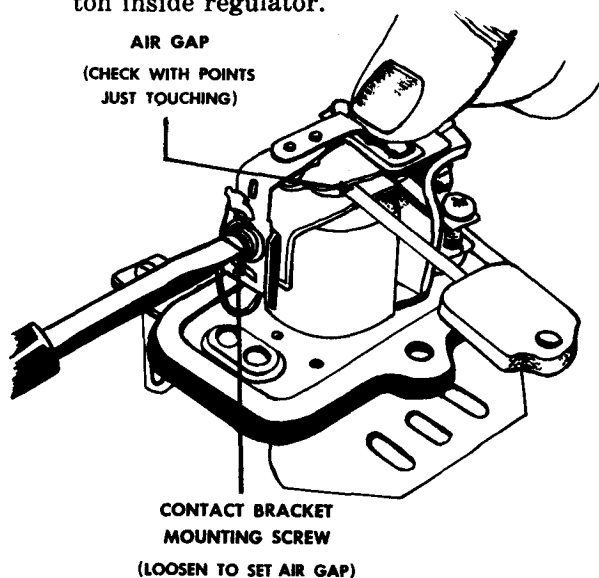

Figure 15—Checking and adjusting air gap.
Air Gap — Measure the air gap between the armature and core with the points just touching. (All relay leads must be disconnected.) If adjustment is necessary, hold the armature down against the gauge and adjust the upper contact support so the contacts are aligned squarely and just touch when the contact support screws are tightened. See Figure 15.
7. To adjust the opening voltage, decrease the air gap adjustment (Fig. 15) to decrease the voltage spread between closing and opening voltage.